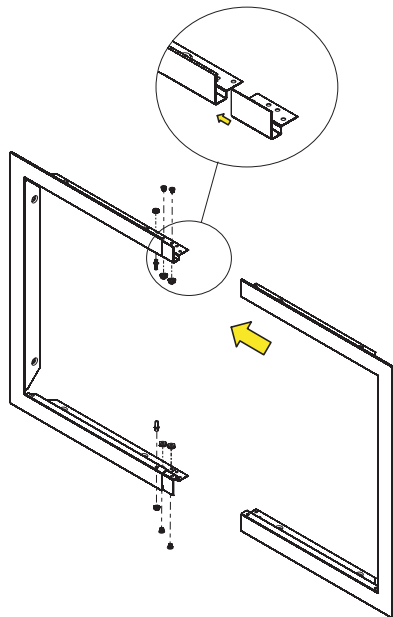

Figure 6
2. Use the door brackets included in the hardware packages to combine the frames. Use the screws from the single door to attach the bracket, and place the door pin in position. See Figure 6.